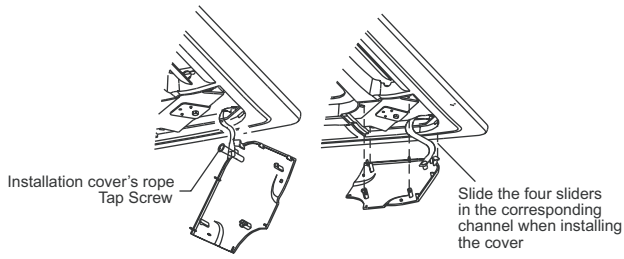

Fig.1-14
- Fasten the rope of installation cover on the bolt of the installation cover. (Refer to Fig.1-14)
- Press the installation cover into the panel slightly. (Refer to Fig.1-14)